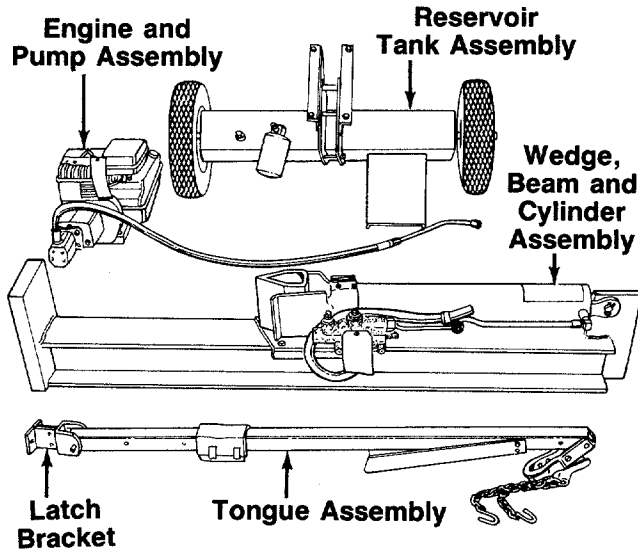

FIGURE 1.
← Parts in Cartons (See figure 1)
2. Remove the latch bracket which has been assembled to the other end of the tongue for shipping purposes only by removing another quick release pin. Refer to figure 1. This bracket will be reassembled to the beam on page 6. Replace the quick release pin in the latch bracket.